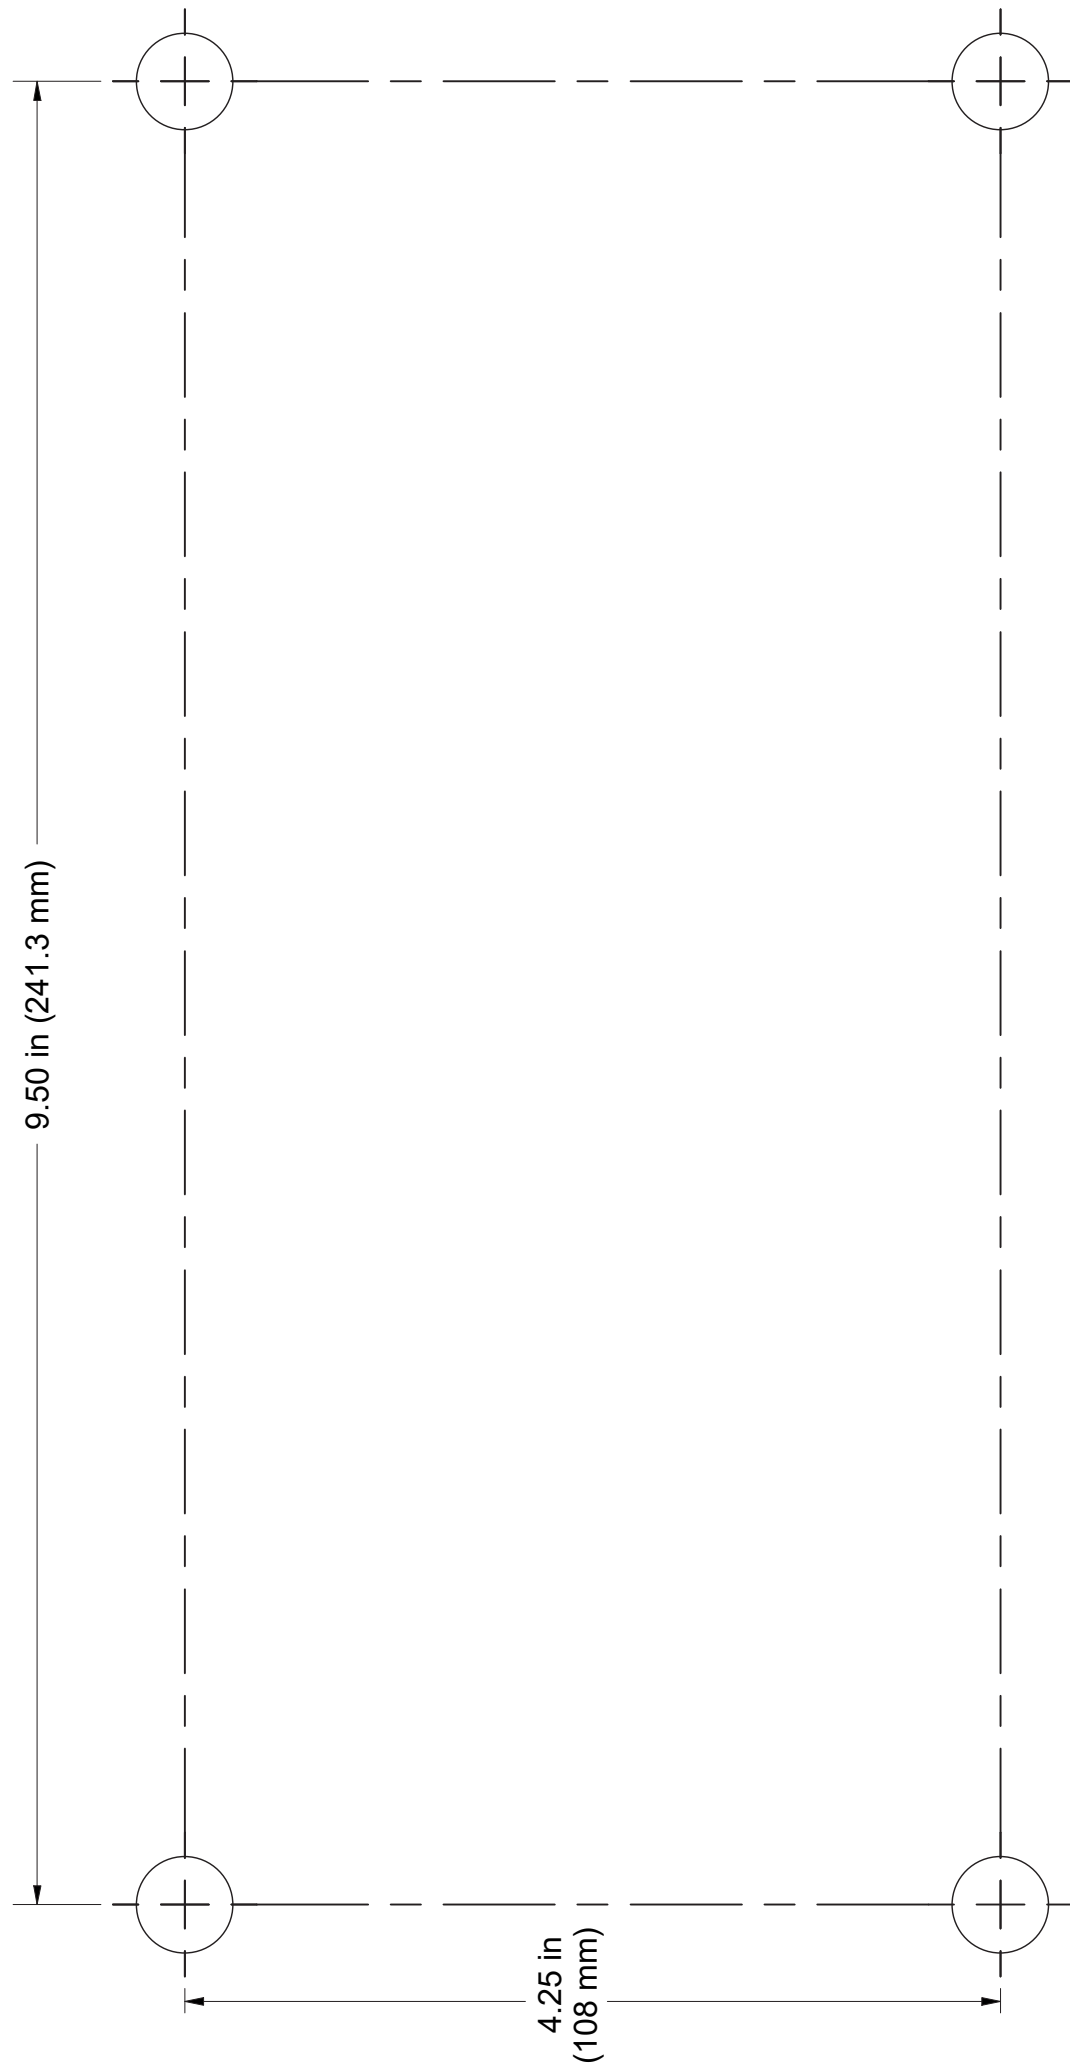

Fig. 23
5. If using the thru bolts, drill a 3/8" hole, using the drilling template (Fig. 23). Then apply the 3/8" hardware as specified. Torque hardware to 21-25 lb.-ft. (30-34Nm).